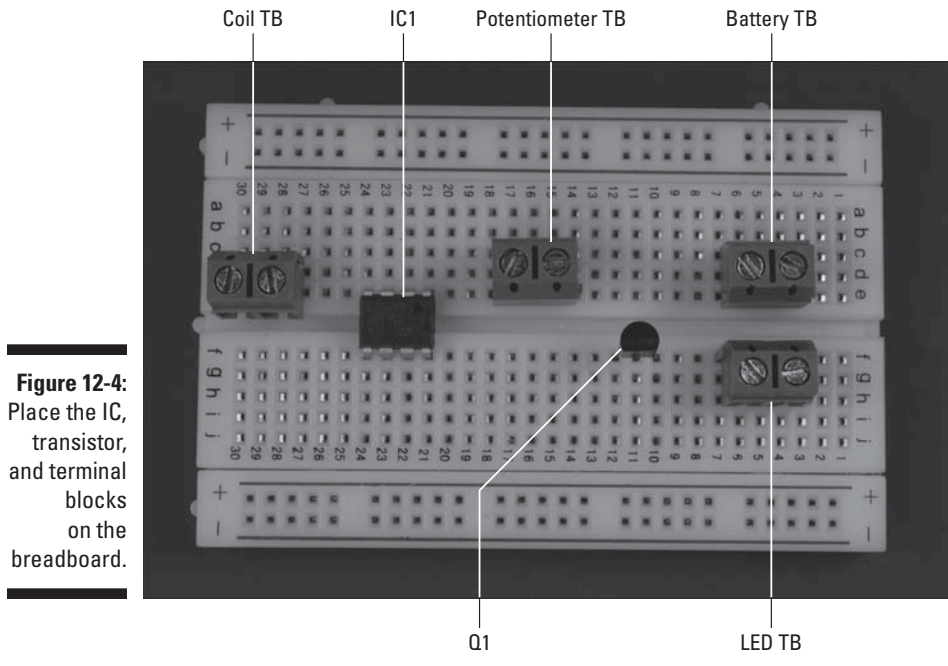

Figure 12-4: Place the IC, transistor, and terminal blocks on the breadboard.
1. Place TDA0161 (IC1), 2N3904 (Q1), and four terminal blocks (TB) on the breadboard, as shown in Figure 12-4.